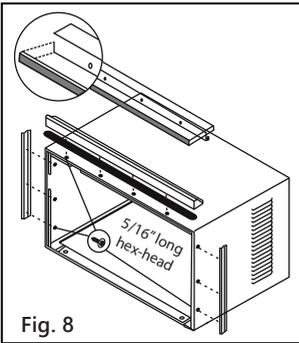

Fig. 8
B. Drive 3/4" (19 mm) or 1/2" (12.7 mm) locking screws through frame holes into window sash (Fig. 8).
2. Install top rail and side retainers to cabinet as shown in Fig. 8 (10 screws).